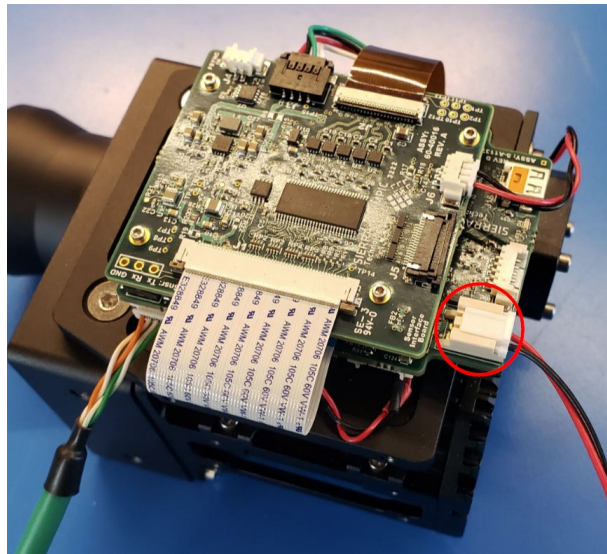

Figure 2: Power Connection
- 6.2.1 Connect the provided Sherlock-terminated power cable to J1 as shown in Figure 2. The nominal input voltage is 12VDC (max 14V) with a minimum 5A supply.